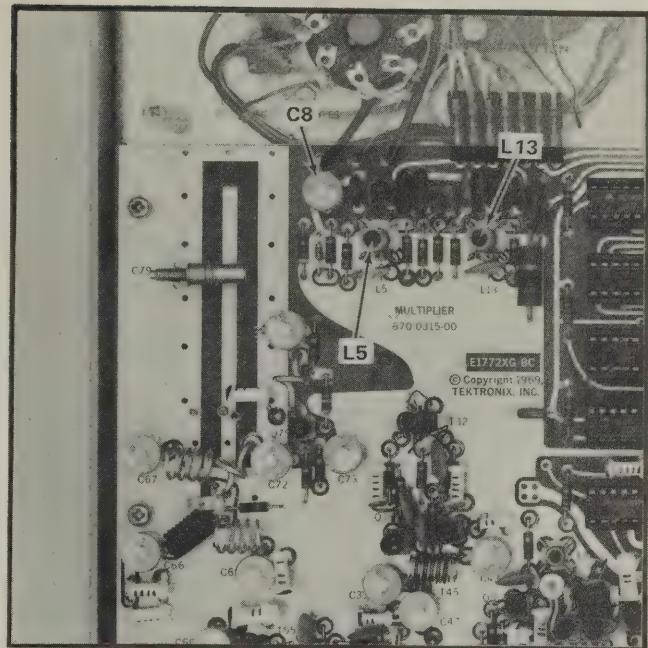

Fig. 5-4. Crystal oscillator frequency and amplitude adjustments.
- 1) Adjust C8 (Fig. 5-4) for 10 MHz .
- g. ADJUST—L13 (Fig. 5-4) for maximum marker amplitude. If the core of L13 is moved more than one full turn, readjust L5 to the midpoint of the oscillator operating range. Recheck accuracy of the 10 MHz oscillator.
f. **ADJUST**—L13 (Fig. 5-4) for maximum marker amplitude. If the core of L13 is moved more than one full turn, readjust L5 to the midpoint of the oscillator operating range. Recheck accuracy of the 10 MHz oscillator.